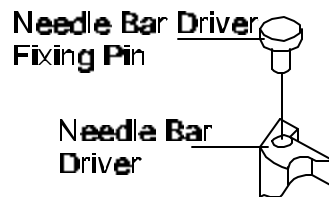

Figure 5
13. **Remove** Needle Bar Driver and Needle Bar Driver Fixing pin from Needle Bar Driver Fixing Base. See Figure 5.